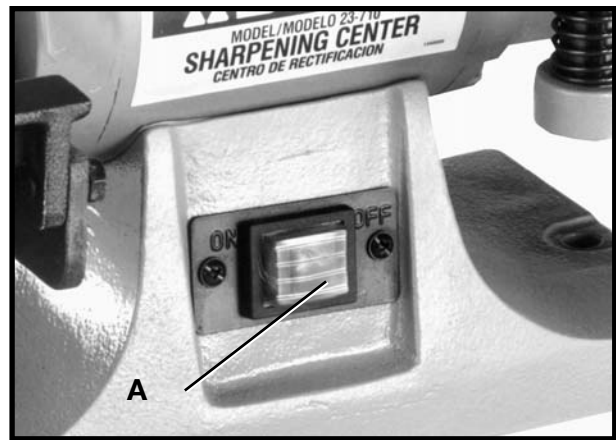

Fig. 30
The switch (A) Fig. 30, is located on the front of the grinder base inside a water resistant enclosure. To turn the machine "ON" push the left hand portion of the switch. To turn the machine "OFF" push the right hand portion of the switch.